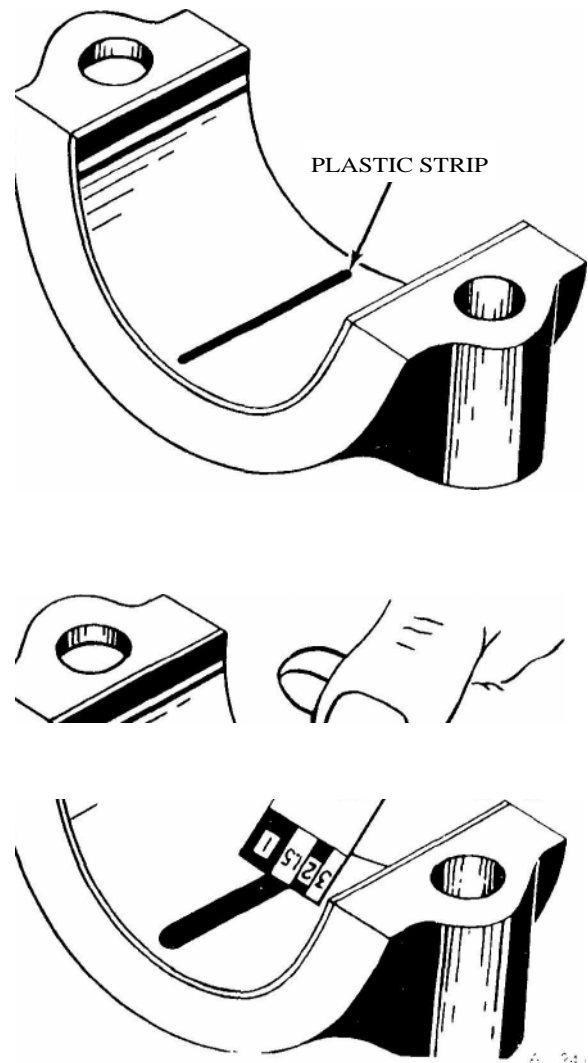

Figure 1. Using plastic strip to measure bearing-to-crankshaft clearance.
5. Compare the width of the flattened plastic strip at its widest point with the graduations of the envelope, see figure 1. The number within the graduation on the envelope indicates the bearing clearance in thousandths of an inch. Taper may be indicated when one end of the flattened plastic strip is wider than the other. Measure each end of the